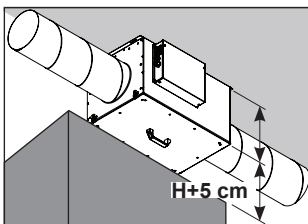

Fig. 5:
- The installation should be easily accessible for maintenance and cleaning and should be easy to dismantle. Leave a space of at least the height of the unit + 5 cm from other units, shelves or cabinets to facilitate maintenance work such as changing the filter (see Fig. 5).